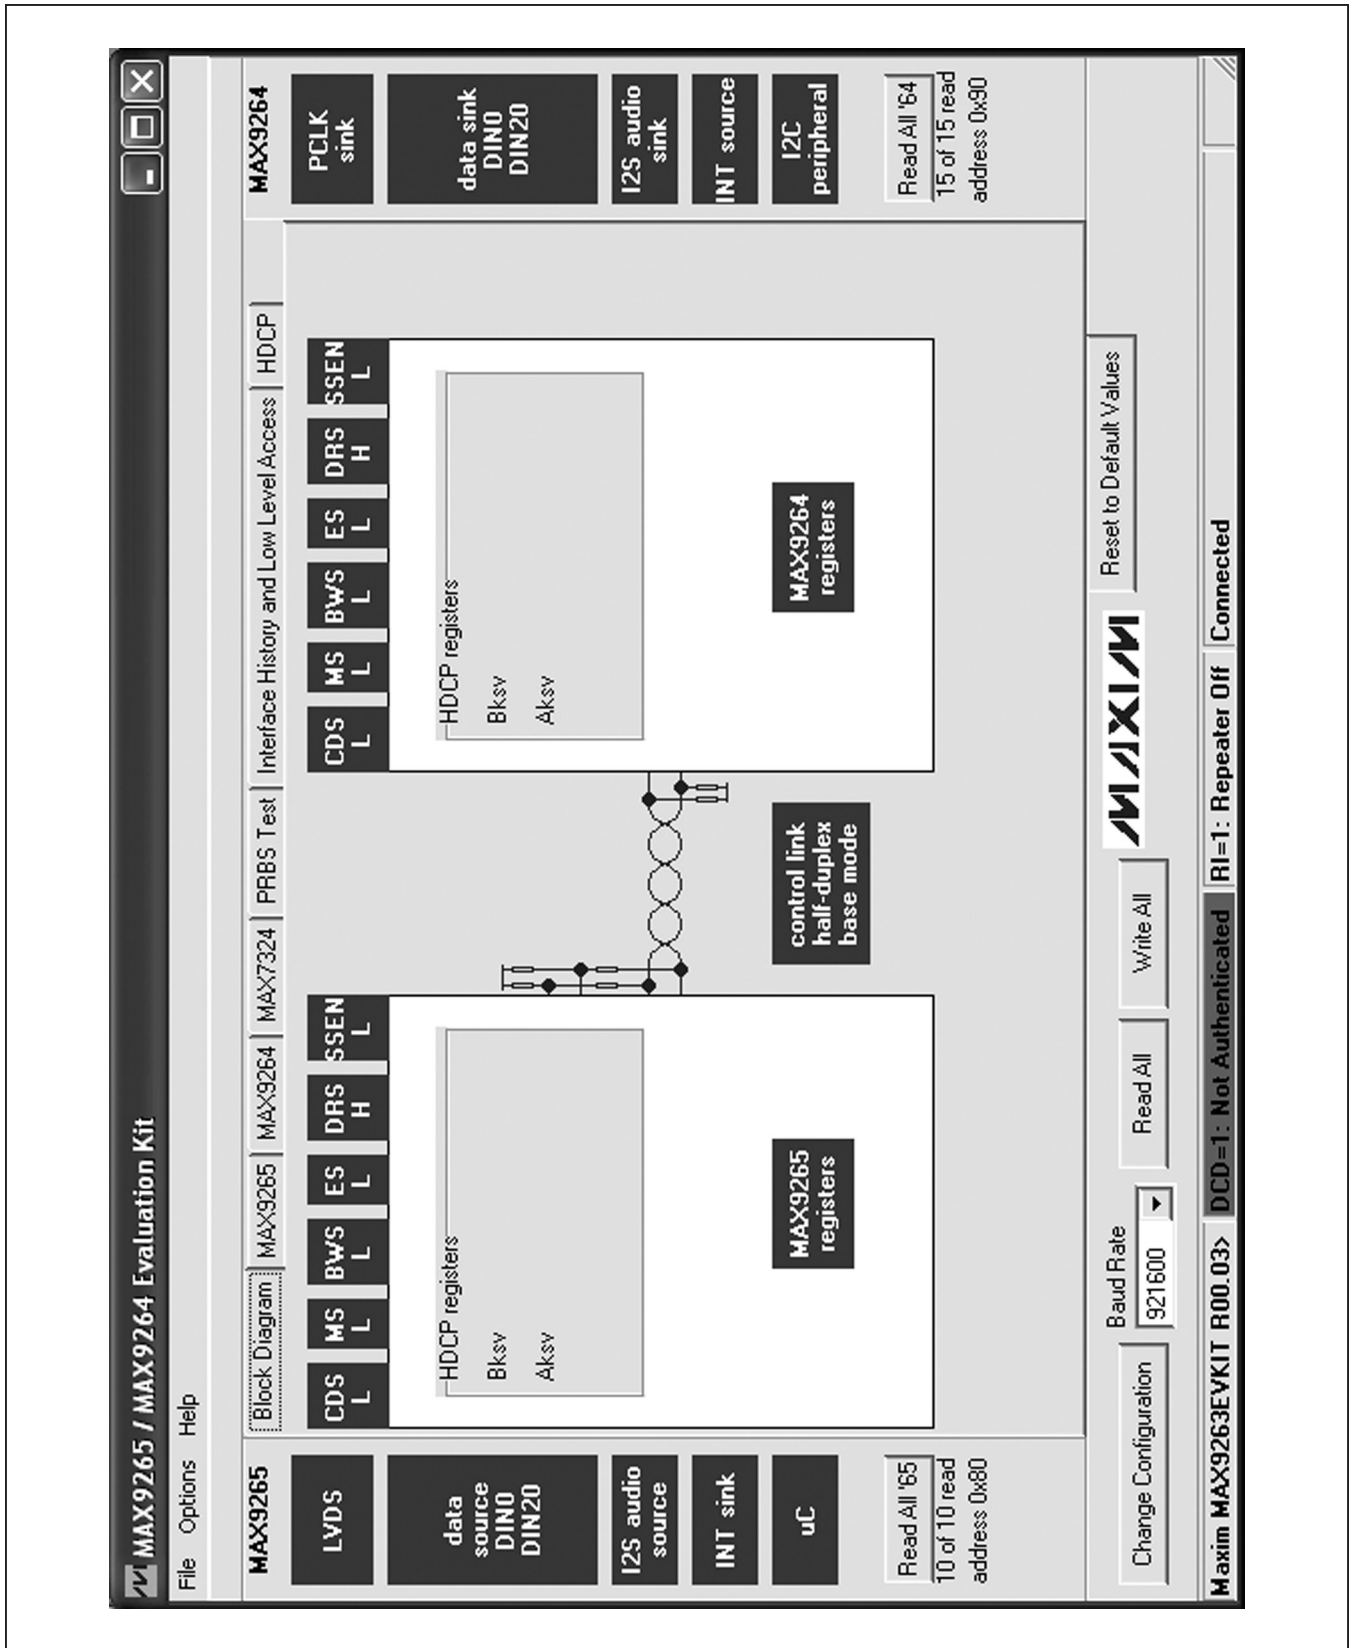

Figure 1. MAX9265/MAX9264 EV Kit Software Main Window (Block Diagram Tab)
- 15.4) The EV kit software main window appears, as shown in Figure 1. When using the repeater firmware, the EV kit software tries to read the registers while the repeater firmware is busy authenticating the display, so initially the Figure 1 window may show failed reads. *This is not an error.*
The main window of the evaluation software (Figure 1) shows a block diagram representing the MAX9264/MAX9265 system. The left column shows MAX9265 input data sources and the right column shows MAX9264 output data sinks.